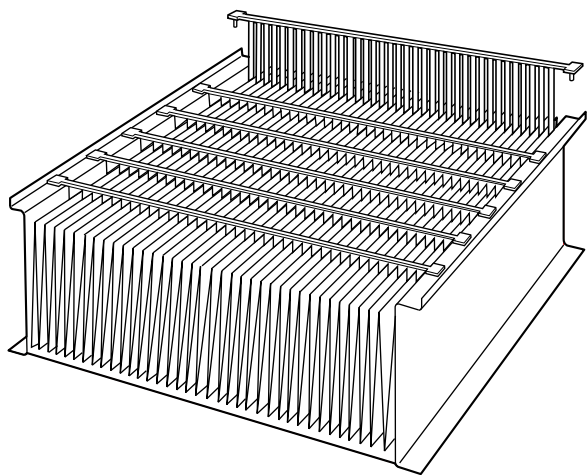

Fig. 6—Placement of Plastic Pleat Spacers
5. Install plastic pleat spacers, being careful to insert 1 support finger between each pleat. Press pleat spacers down firmly to fully engage guide pin at each end. (See Fig. 6.)